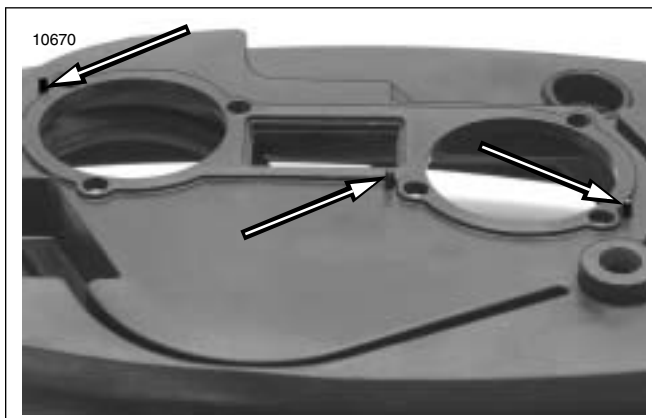

Figure 1-6. Air Filter Gasket Alignment Pins (3)
- See Figure 1-6. Inspect and replace bottom airbox gasket if damaged. Check gasket position on air filter bottom. Gasket is located by three alignment pins on mating surface.